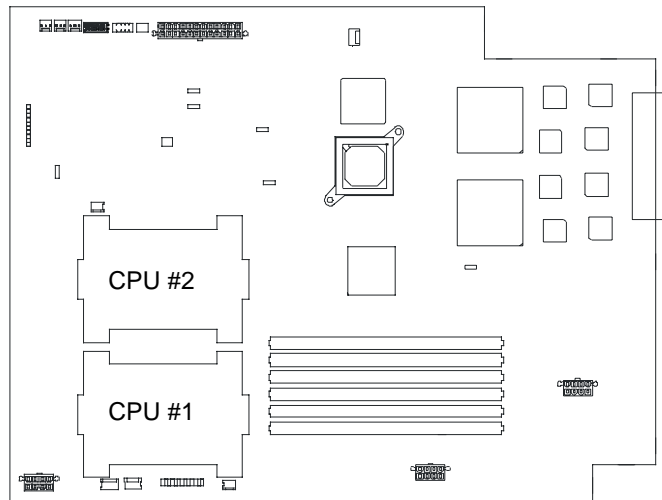

Figure 4-8. CPU Board Component Locations
4. Locate the two processor sockets on the CPU board inside the CPU module. See Figure 4-8.